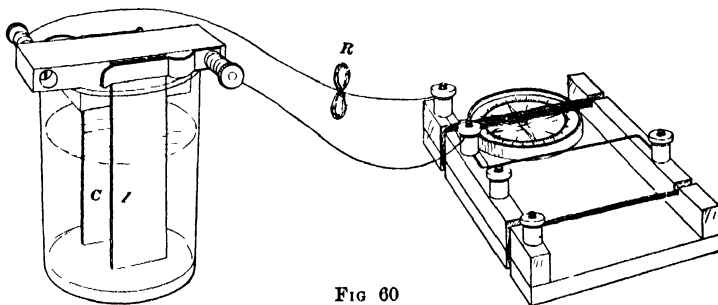

FIG 60
**I. Effect of size of plates and distance between them on the electromotive force of a cell** To one of the terminals of the 100-turn coil of the galvanoscope connect a small coil *R* (Fig 60) of German-silver wire the resistance of which is about 1000 ohms. Then complete the circuit of the simple cell